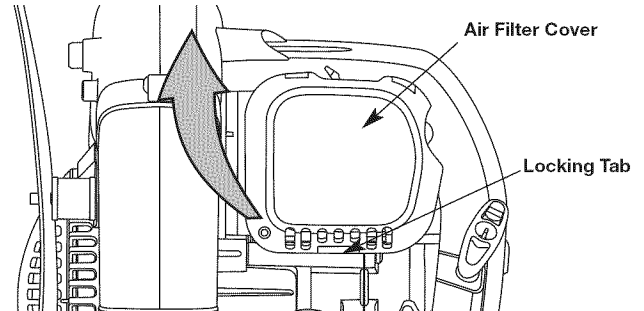

Fig. 23
1. Open the air filter cover. Push the locking tab on the under side of the cover inward. Then pull the air filter cover out and up. (Fig. 23).